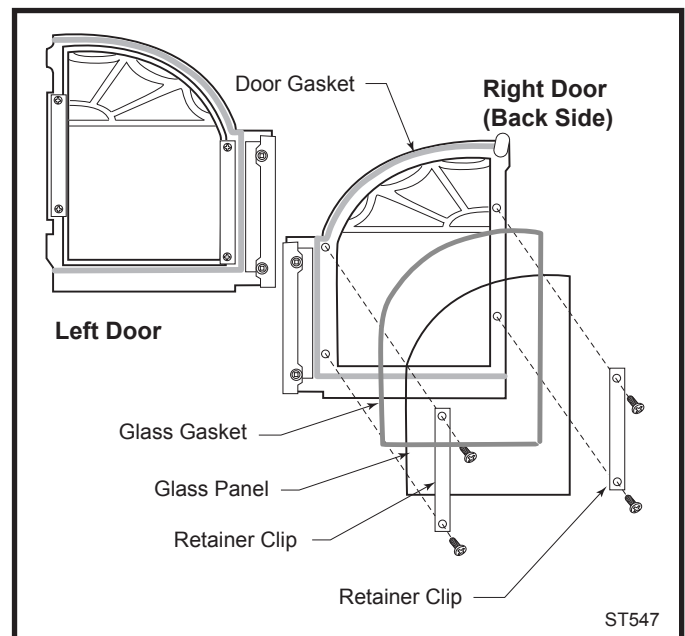

Fig. 42 An exploded view of the glass assembly.
2. Secure the glass on both doors with the retainer clips. Tighten all screws. (Fig. 42)